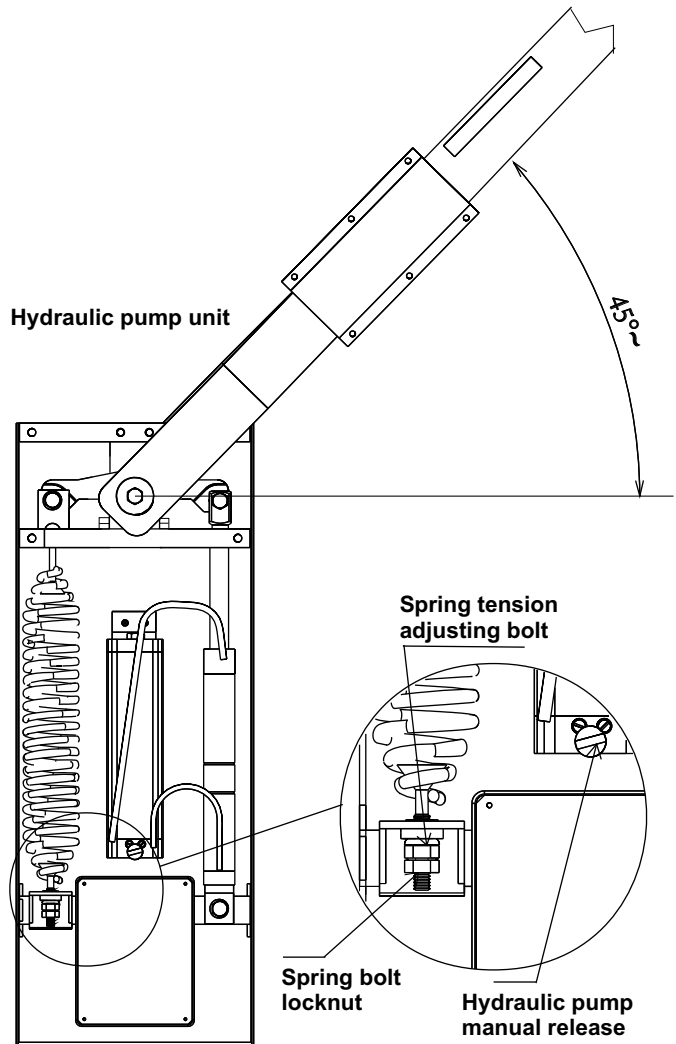

Fig. 8
- Tight or untight the spring adjusting bolt locknut so that the spring reaches a balance point with the beam at 45° (Fig 8). If the beam is correctly balanced it should stay stopTped in position (Fig.8).